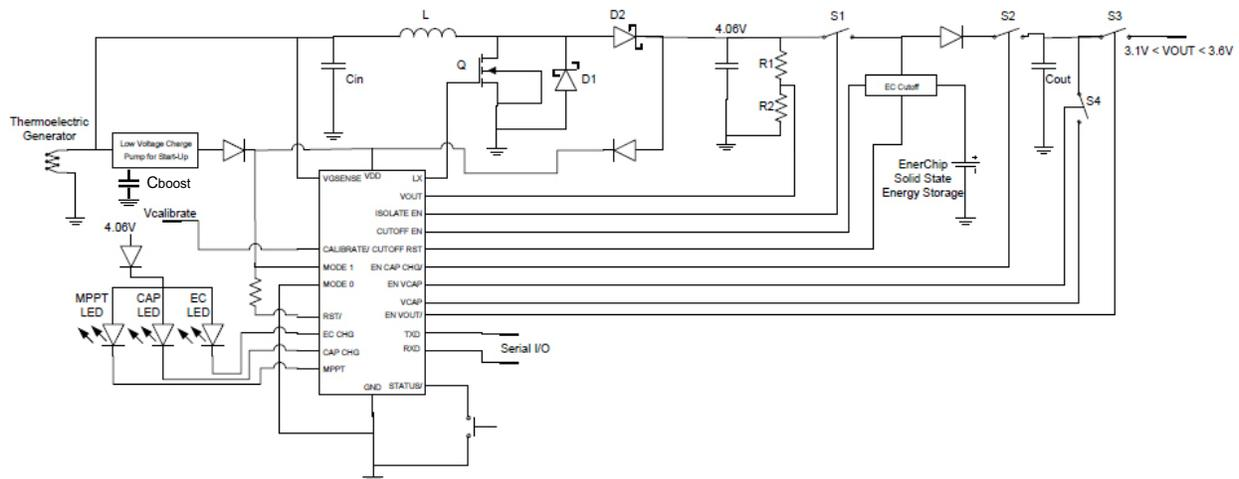

Figure 3. CBC915 Energy Processor Application Circuit
(4) This pin must be connected to a 1 kohm pull-up resistor or resistor with series LED to the positive supply. See Figure 3 and the section titled "Status Indicators" for more information.
CBC915 operation with a thermoelectric generator (TEG) transducer (as shown in Figure 3) starts with a temperature differential across the TEG. This temperature differential causes the TEG to generate a voltage. When that voltage reaches approximately 400mV, the input charge pump will start, boost the input voltage, and store the accumulated charge in capacitor  $C_{boost}$ . When the accumulated charge voltage reaches approximately 2.4V, the charge accumulated on  $C_{boost}$  will be released onto the CBC915 power rail, activating the CBC915. Upon activation, the CBC915 outputs are initialized to a known state and the input mode pins will be interrogated in order to recognize the transducer type. The CBC915 will then pulse-width modulate the LX pin and initiate operation of the boost converter. When the boost converter voltage rises above 2.4V, power to the input charge pump is removed to reduce quiescent current. The CBC915 then checks for voltage on the output capacitor ( $C_{out}$ ) by setting the EN VCAP pin high and reading the output capacitor voltage on VCAP pin. If the capacitor is charged, the CBC915 will leave the capacitor connected to the VOUT pin and EnerChips. If the capacitor has not been charged, the CBC915 will turn off the VOUT connection by setting EN VOUT/ pin high and isolate the capacitor from the EnerChips by setting EN CAP CHG/ pin high. The CBC915 will then check the boost converter voltage by monitoring the voltage at the VOUT pin and wait for the voltage to reach 4.06V at which time the CBC915 will enter the maximum peak power tracking state (MPPT) and pulse the MPPT/ status pin low and start adjusting the boost converter input impedance to match the output impedance of the TEG. This process can take several minutes. The MPPT state is only entered at initial power-on and values are subsequently stored. Note the MPPT state can be entered by five different events:
The CBC915 features a calibration function to remove errors caused by unit to unit variation in the voltage divider resistors (R1 and R2 of Figure 3) used to drive the ECFB input. The CALIBRATE/ pin has an internal pull up resistor and can be driven by an open drain/collector output or switch contact. To calibrate apply 4.06V to the V+ node. Then short the CALIBRATE/ pin to ground for approximately 100mS. The EC CHG LED/, MPPT LED/, and CAP CHG/ pins will simultaneously pulse low when the CBC915 has stored its calibration values.